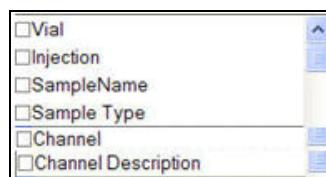

Figure 155 - Peak table columns to be displayed
3. Click **Hide All**, then deselect the columns required to be displayed, see Figure 155.